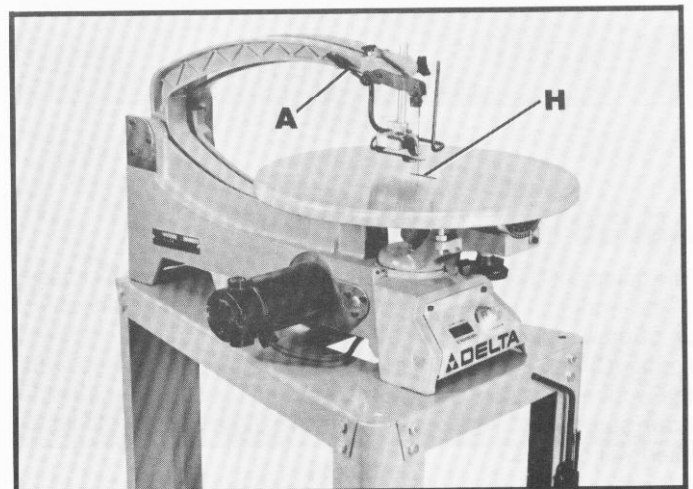

Fig. 18
7. Apply blade tension by moving tension lever (A) Fig. 18, to the rear.
8. Replace table insert (H) Fig. 18.